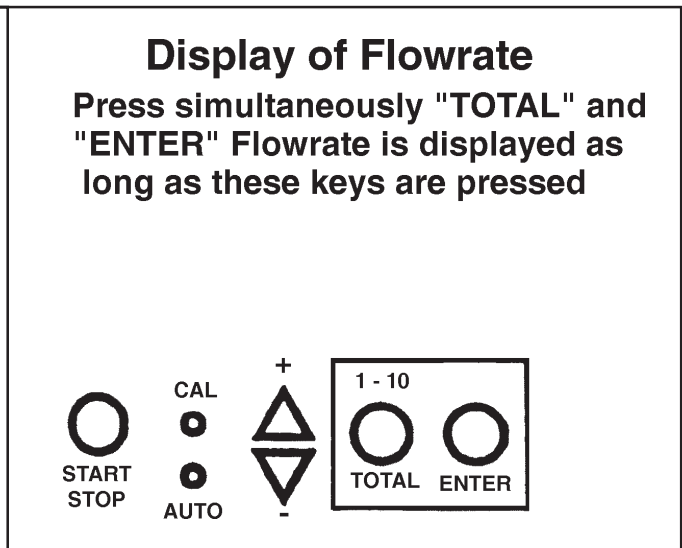

Figure 3-12 Display of Flowrate (Normal Mode)
**Display Flowrate** (Figure 3-12)
(Refer to Figure 3-12).
Display Flowrate (Figure 3-12)